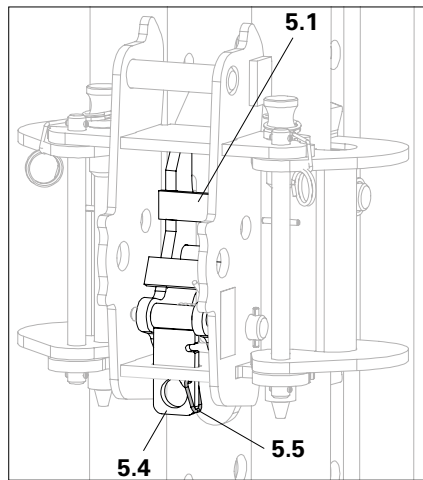

Fig. D7.04
- The climbing pawl is activated. (Fig. D7.04 + D7.04a)